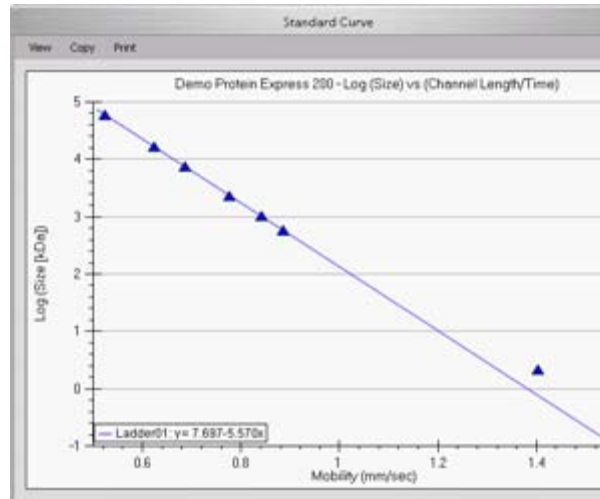

Figure 7. Standard Curve - Protein
- 5 The ladder is analyzed (see “Ladder Analysis” on page 271) and a standard curve of migration time versus mobility is plotted from the ladder by interpolation between the individual protein size/migration points. The standard curve derived from the data of the ladder well should resemble Figure 7.